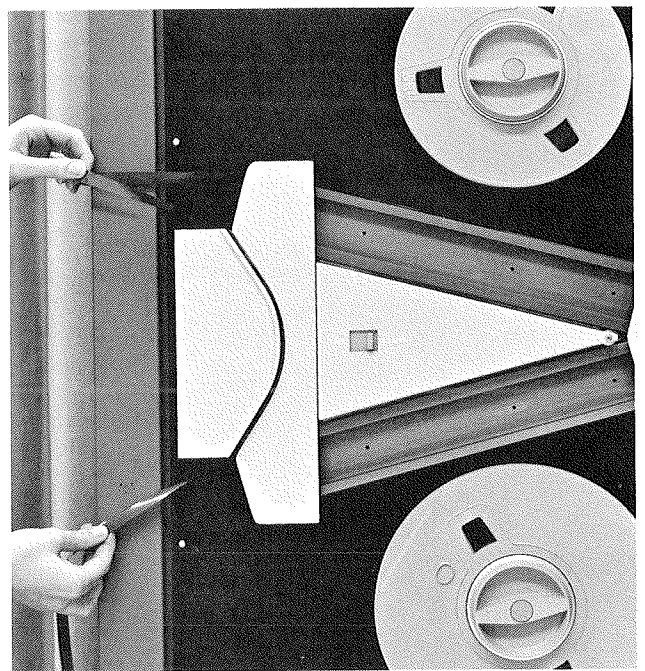

Figure 3-6. Threading Tape (step b)
b. Place tape over raised portion of the head cover, above threading slot (figure 3-6). Pull tape taut and position right hand near end of lower chamber, leaving several inches of tape between left hand and head cover.